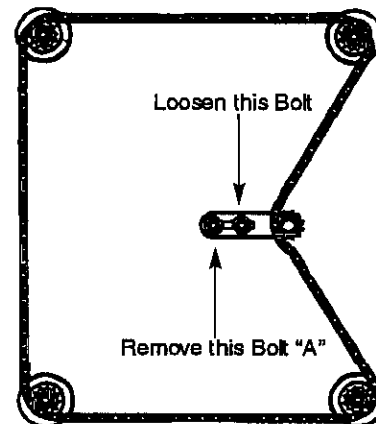

Figure 17 – Chain Tension Bracket
- If roller case is not parallel to the table, then the table must be adjusted. Loosen the two bolts holding the chain tension sprocket (See Figure 17). It may be necessary to remove bolt “A” to release the tension in the chain.